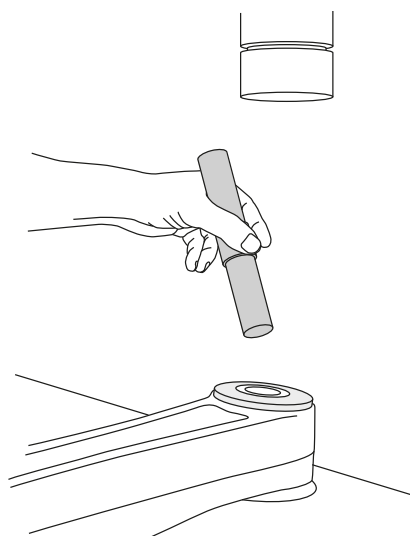

Figure 100: Fit Removal Tool
5. Centre the pivot bush remover tool on the inner sleeve and press out the old bush, (these bushes are not cartridge type bushes, they do not have outer metal sleeves). Refer Figure 100 and Figure 101.